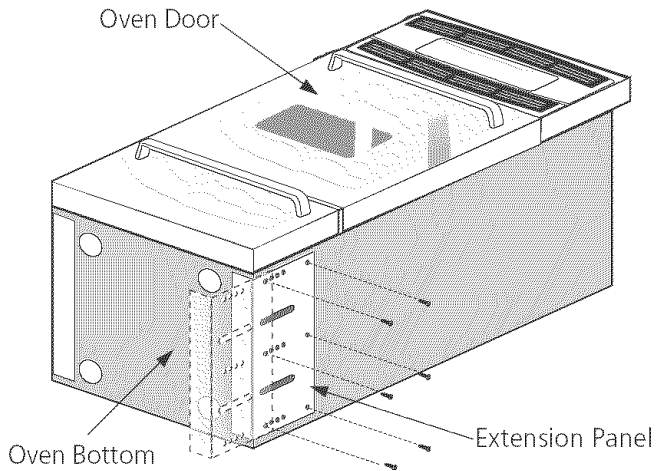

Figure 4
1. Lay oven on its back. (see figure 4).
1. Height adjustment: lower the extension panel 1" (see figure 4).